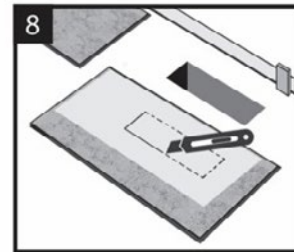

Figure 8
8. Fitting around irregular objects is no problem. Simply make a pattern out of heavy paper to fit around pipes or irregular objects. Place the pattern upon the plank and trace (Figure 8). Cut along trace lines using a utility knife or sharp shears, and lay the plank. Be sure to leave a minimum of 6mm expansion space around all fixed objects, cabinetry, and metal door jambs. Undercut wooden door jambs. Fill any expansion spaces around potentially wet areas such as refrigerators, tubs, and appliances with premium waterproof 100% silicone.